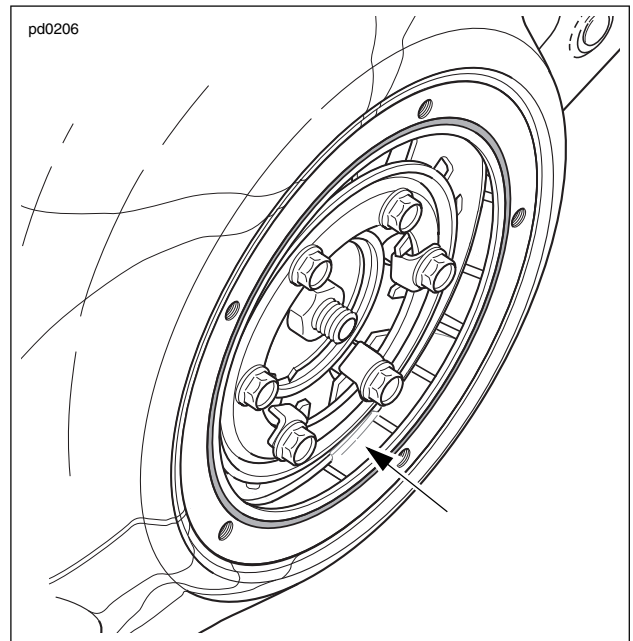

Figure 2-16. Chaincase Lubricant Level
2. See Figure 2-16. The primary chaincase lubricant level is acceptable when lubricant is visible in bottom of chaincase with motorcycle standing upright (not resting on jiffy stand).